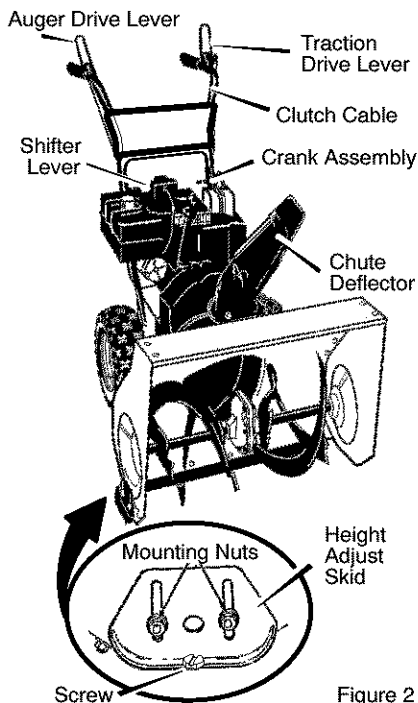

Figure 2
Figure 2 shows the snow thrower completely assembled. References to the right or left hand side of the snow thrower are from the view-point of the operator's position behind the unit.
4. For shipping purposes, the **height adjust skids** are attached to the pallet. Remove the **screw** that secures each **height adjust skid** to the pallet. See Figure 2.